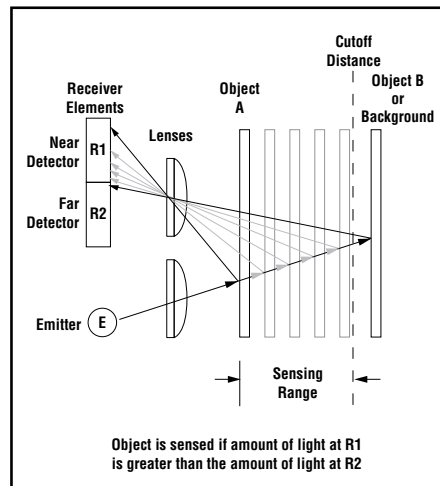

Figure 1. Fixed-field concept
The S30FF compares the reflections of its emitted light beam (E) from an object back to the sensor’s two differently aimed detectors, R1 and R2 (see Figure 1). If the near detector (R1) light signal is stronger than the far detector (R2) light signal (see object A, closer than the cutoff distance), the sensor responds to the object. If the far detector (R2) light signal is stronger than the near detector (R1) light signal (see object B, beyond the cutoff distance), the sensor ignores the object.